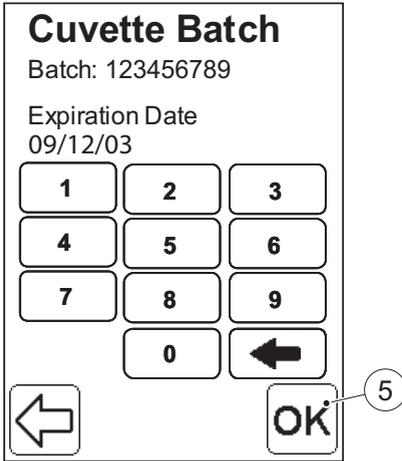
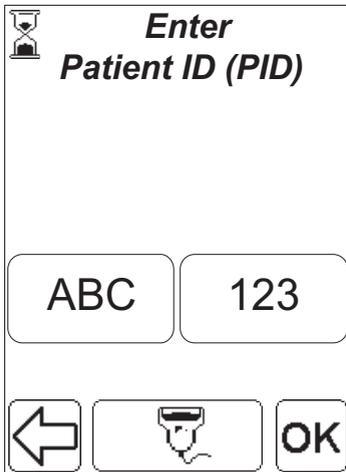

FIGURE 6-4
FIGURE 6-5
- f) If Cuvette Batch No. requirement is set to *Entry required* (see 4.4.1 *General Settings*), and the Cuvette Batch No. is entered via the Barcode Scanner using the barcode from the Cuvette vial, the expiration date is automatically entered, and FIGURE 6-5 will be displayed. Otherwise FIGURE 6-4 will be displayed.